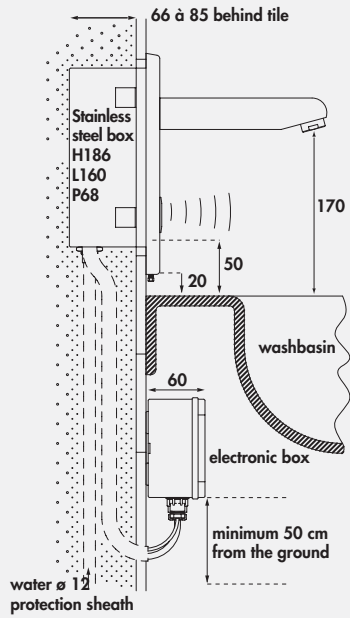

fig. 2
- **Type 447922 on pannel and 447981** : (fig.2 & 4)